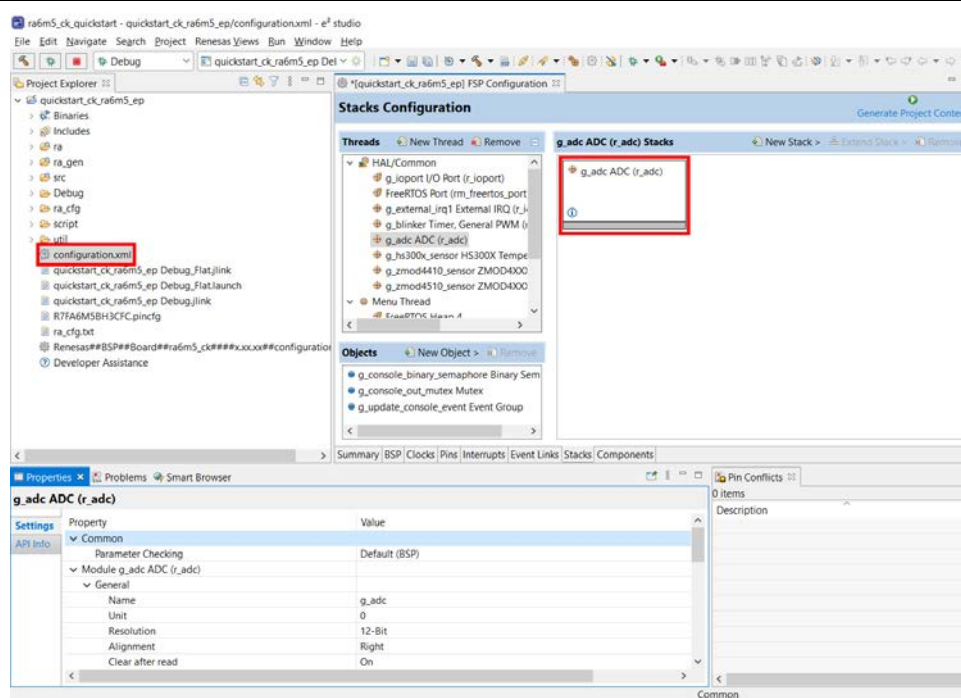

Figure 25. Modifying the Configuration Settings
2. For example, in the **Stacks** tab of the configurator, the user can click to select modules to modify the configuration settings, as required, in the **Properties** tab. Figure 25 illustrates modifying the **ADC** driver configuration.